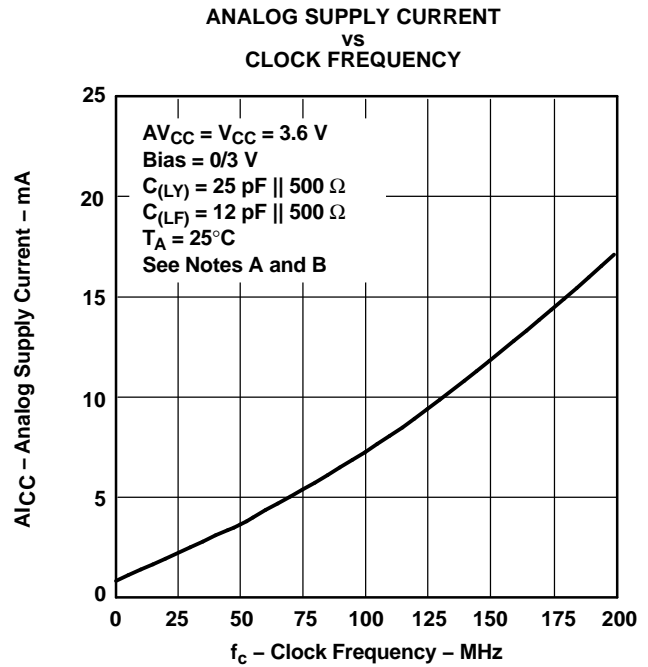
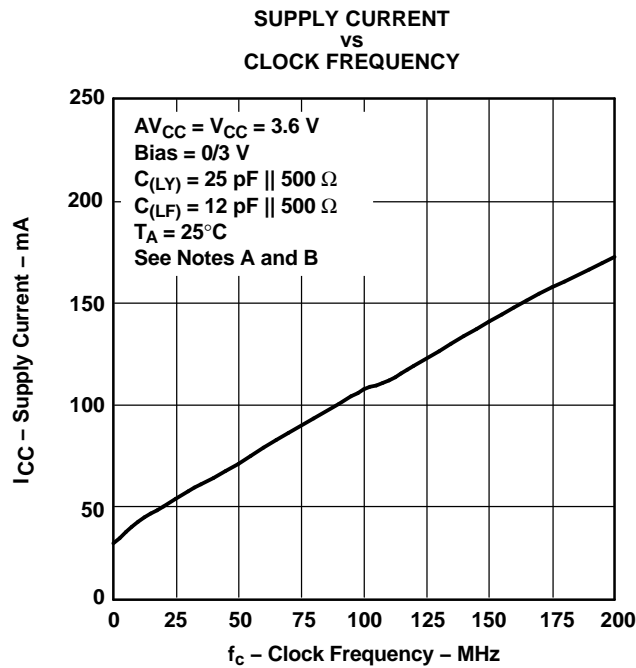

Figure 9.
Figure 10.
- (1) For conditions shown as MIN or MAX, use the appropriate value specified under recommended operating conditions.
(2) For dynamic I_{CC} vs Frequency, see Figure 9 and Figure 10.